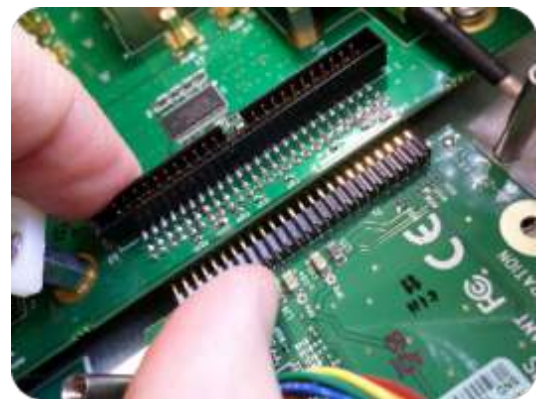

Figure 2: Connector installation
- (c) Insert the card into the bottom slot by carefully pressing its connector into the mainboard connector (see Figure 2), and lining up the screw holes on the card with the chassis.